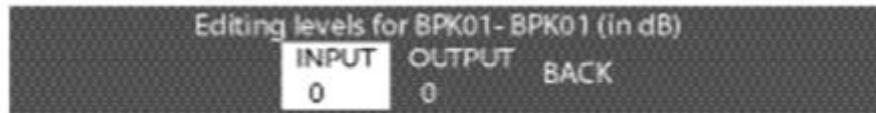

Figure 6-20 Beltpack levels menu
- 3) Select 'LEVELS'. The beltpack levels editing menu is displayed, as shown in Figure 6-20 Beltpack levels menu.